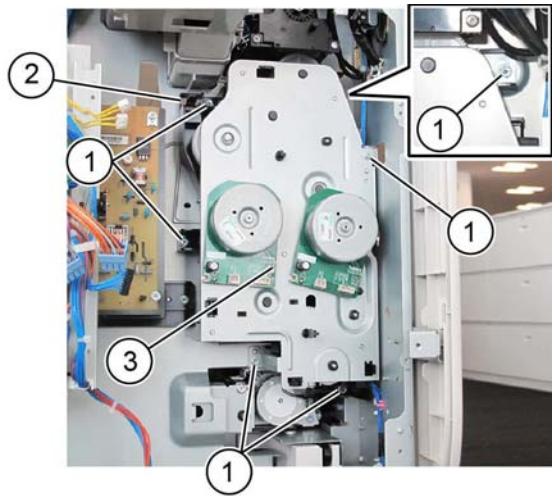

Figure 4 Drive assembly removal
8. Remove the drive assembly, **Figure 4**:
- a. Remove six screws (1).
- b. Release the latch (2), then remove the drive assembly (3).